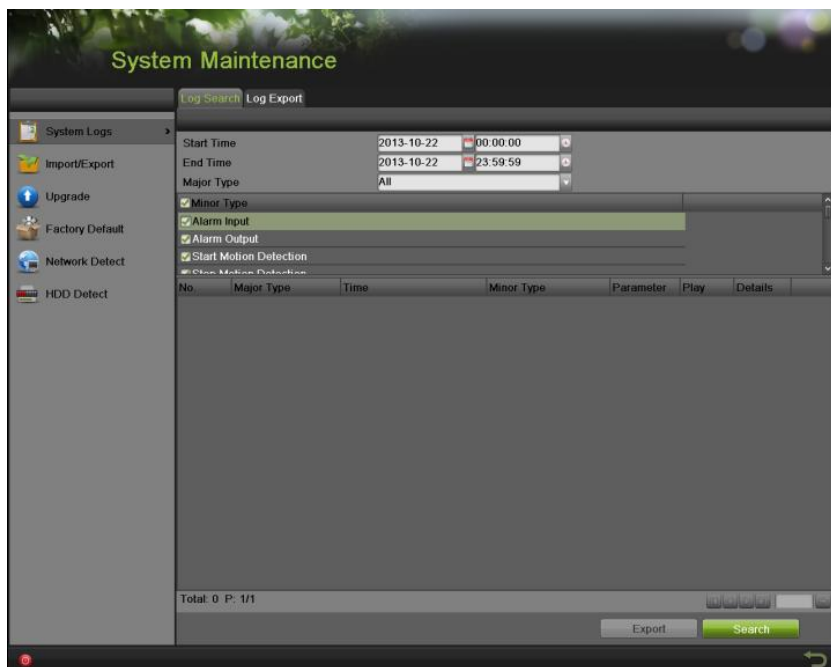

Figure 144 System Logs Menu
1. Enter the System Logs menu, shown in Figure 144 by going to Menu > Maintenance > System Logs.